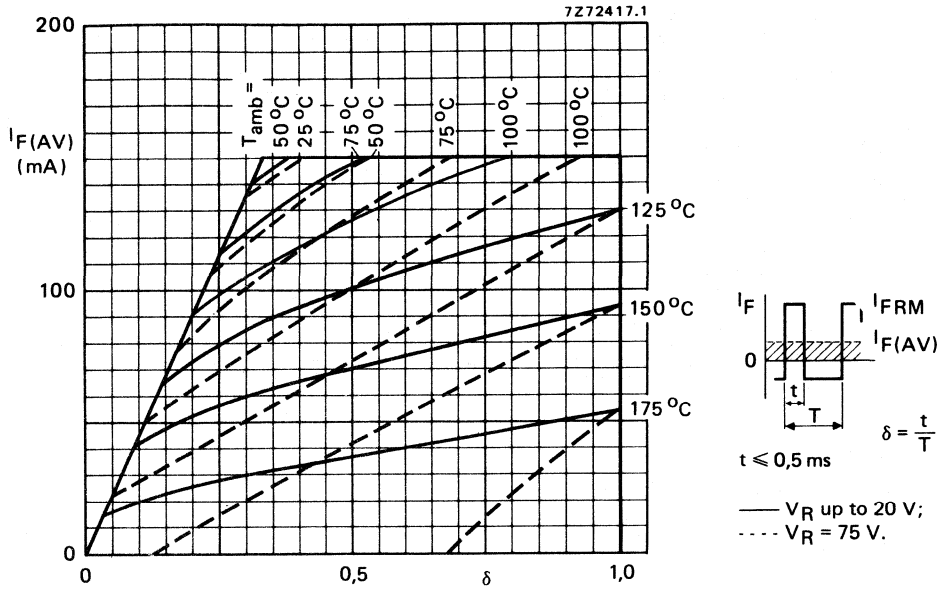

Fig. 4 Maximum permissible average rectified forward current as a function of duty factor (pulse operated).
* For sinusoidal operation see Fig. 6. For pulse operation see Figs 4 and 5.